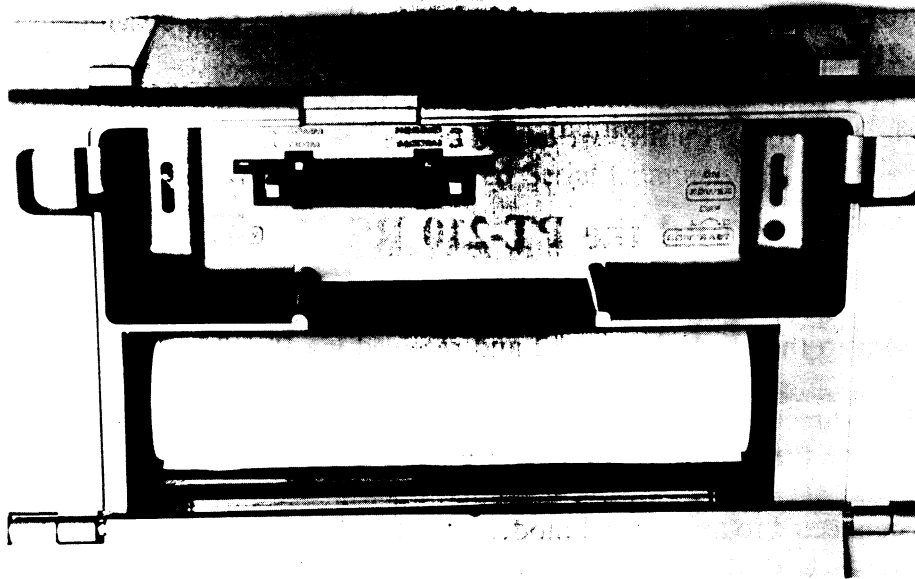

Figure 8. RS-232C Interface Card Installed
3. Slide the card down the grooves until the **plug seats** firmly into the jack at the bottom. The DB-25 jack will protrude from the top of the hole. See Figure 8.